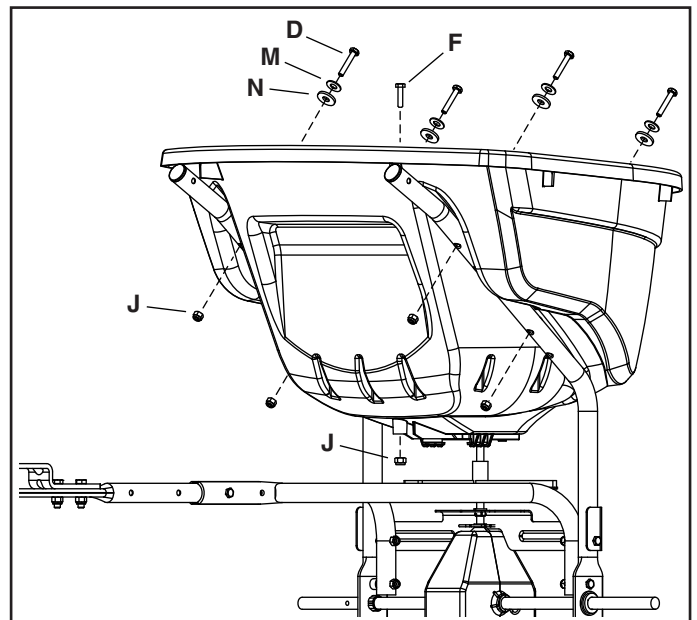

FIGURE 8
STEP 8: (SEE FIGURE 8)
- Attach the hopper to the hopper support tubes using four 1/4" x 1-3/4" hex bolts (D), 1/4" washers (M), nylon washers (N) and 1/4" nylock nuts (J). **Make only finger tight.**
- Insert the 1/4" x 1" hex bolt (F) into the hole in the bottom of the hopper, pressing the head of the bolt into the hex shaped recess of the hole. Install a 1/4" nylock nut (J) onto the bolt and **tighten**.